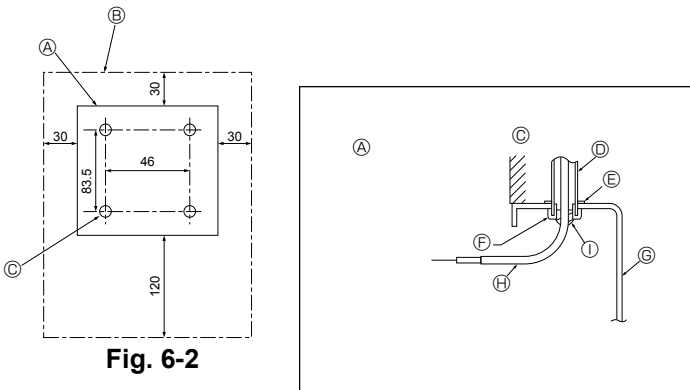

Fig. 6-2
(1) Select an installing position for the remote controller. (Fig. 6-2)
[Fig.6-2]